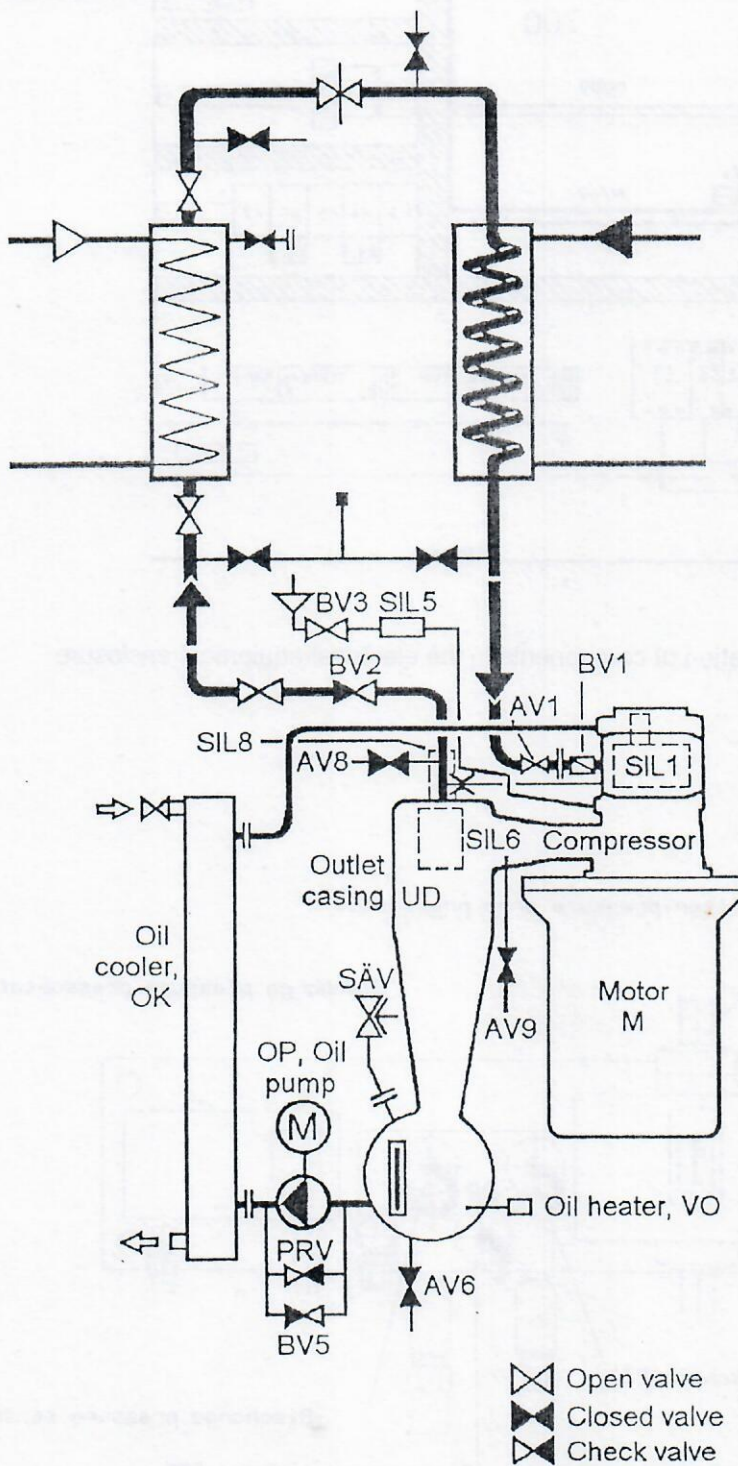

Fig. 6. Positions of valves during operation
10. Open the cooling water valves to the oil cooler if it is water-cooled (Fig. 6). If not, open any valves provided for the refrigerant-cooled oil cooler.
11. Set all other valves in the system to their normal operating positions (Fig. 6).
26. Check that all valves are in their normal operating positions (Fig. 6).
37. If the oil in the outlet casing looks abnormal, or if there is any reason for suspecting that its quality may have seriously deteriorated, we recommend that a sample for analysis should be taken via valve AV6 (Fig. 6).
39. Attend to all filters and suction strainers in the compressor unit – see Fig. 6 and Table 2.
- b) Close valve BV2, as well as AV2 and BV3 if included on your compressor unit (Fig. 6). Also close any valves on either side of any filters in the system that are to be cleaned.